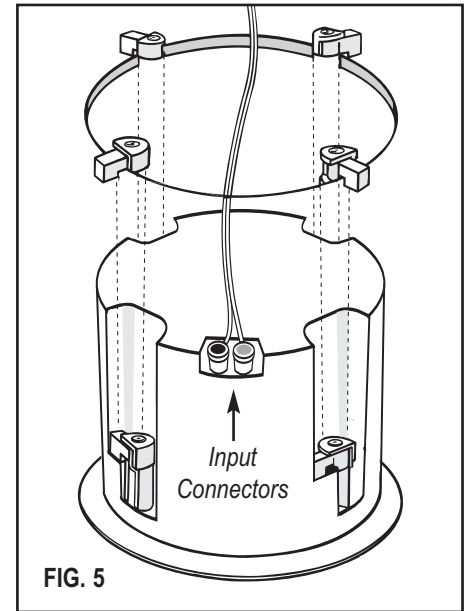

FIG. 5
6. See Fig. 5. With the speaker wire attached to the speaker, slide the speaker up inside the cut-out hole. Center the speaker in the cut-out hole and turn the four locking screws clockwise until the speaker is drawn up snugly to the wall board from behind, clamping the speaker in place. Try to tighten each screw equally. Replace the speaker grille by gently pressing it into place. If necessary, use black grille adhesive to secure the grille.